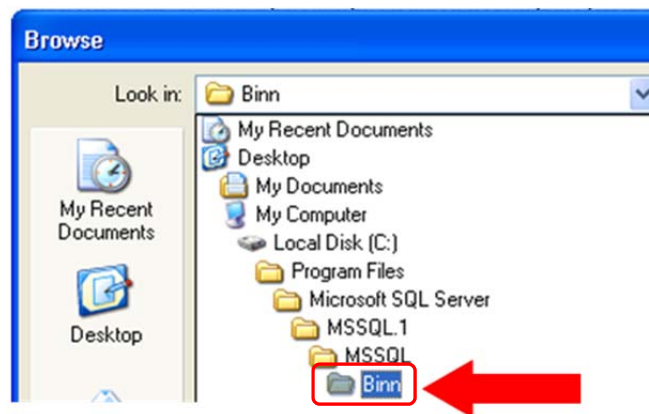

Figure III-11. Microsoft SQL Server\MSSQL.1\MSSQL\Binn Folder
- b. Click the **Browse** button to open the Browse window (Figure III-11).